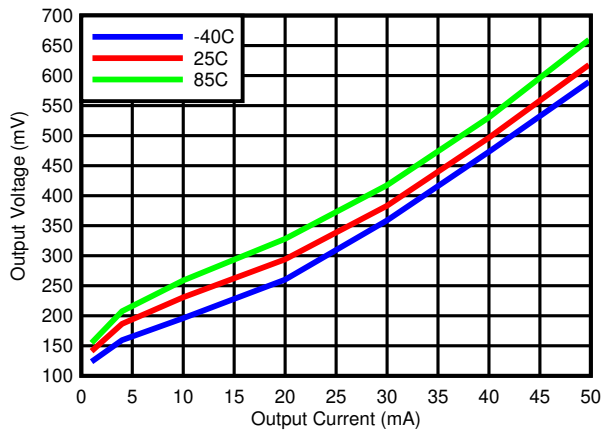
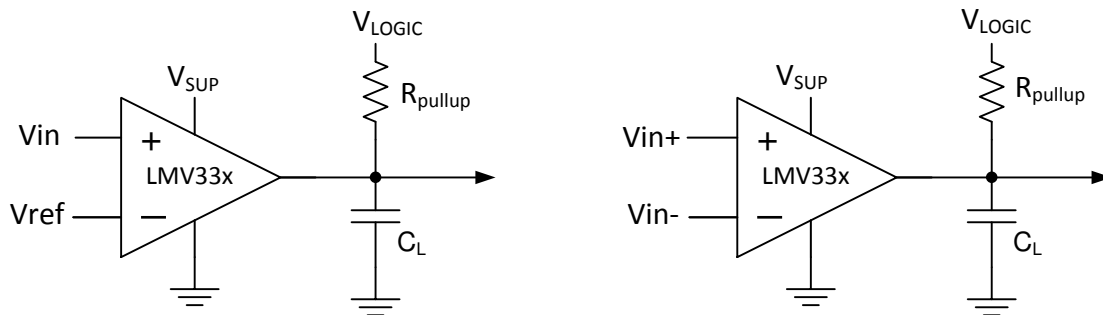

图 6-3. Output Voltage vs Output Current
图 8-1. Typical Application Schematic
Output current is determined by the pull-up resistance (R_{pullup}) and Vlogic voltage, refer to 图 8-1. The output current will produce a output low voltage (V_{OL}) from the comparator. In which V_{OL} is proportional to the output current. Use 图 6-3 to determine V_{OL} based on the output current.
- R_{CE} can be determine by taking the slope of 图 6-3 in it's linear region at the desired temperature, or by dividing the V_{OL} by I_{out}